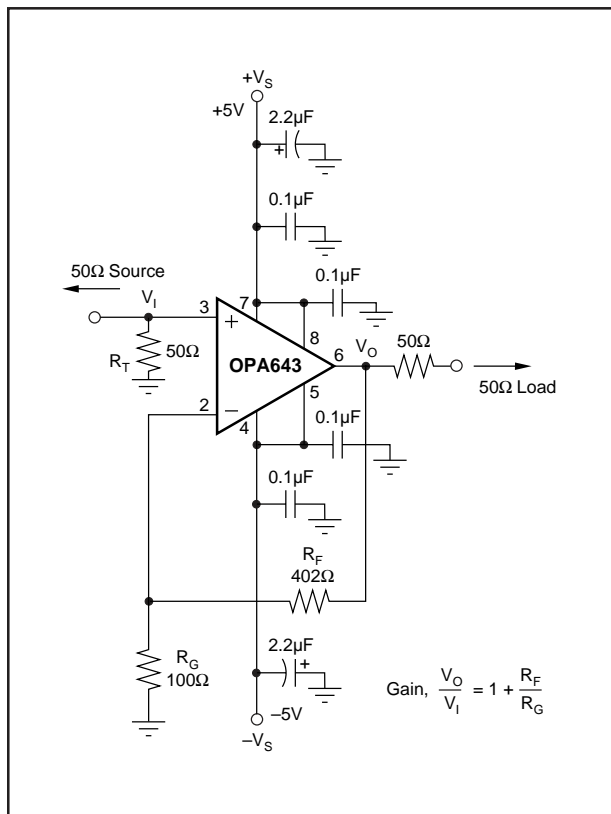

FIGURE 1. Gain of +5, High Frequency Application and Characterization Circuit (P or U Package).
The OPA643's combination of speed and dynamic range is easily achieved in a wide variety of application circuits, providing that simple guidelines common to all high speed amplifiers are observed. For example, good power supply decoupling, as shown in Figure 1, is essential to achieve the lowest possible harmonic distortion and smooth frequency response. Careful PC board layout and component selection will maximize the performance of the OPA643 in all applications, as discussed in the remaining sections of this data sheet.
Figure 1 shows the gain of +5 configuration used as the basis for most of the Typical Performance Curves. Most of the curves were characterized using signal sources with 50Ω driving impedance, and with measurement equipment presenting 50Ω load impedance. In Figure 1, the 50Ω shunt resistor at the  $V_I$  terminal matches the source impedance of the test generator, while the 50Ω series resistor at the  $V_O$  terminal provides a matching resistor for the measurement equipment load. Generally, data sheet specifications refer to the voltage swing at the output pin ( $V_O$  in Figure 1). The total 100Ω load from the series and shunt matching resistors, combined with the 502Ω total feedback network load, presents the OPA643 with an effective output load of approximately 83Ω.
To deliver the lowest possible distortion using the 8-pin SO-8 or DIP package, additional 0.1μF power supply decoupling capacitors on pins 5 and 8 are required. These are shown in Figure 1. Although pins 5 and 8 are internally connected to pins 4 and 7 respectively (the standard supply pins for 8-pin op amps), the additional capacitors help to decouple the package lead inductances and decrease the second-harmonic distortion for a 5MHz fundamental by approximately 4dB. The much shorter bond wires and supply leads of the SOT23-5 package give the best distortion performance while requiring only two power supply connections.
Since the OPA643 is a voltage feedback op amp, a wide range of resistor values may be used for the feedback and gain setting resistors ( $R_F$  and  $R_G$  in Figure 1). The primary limits to these values are set by dynamic range (noise and distortion) and parasitic capacitive considerations. Usually, the feedback resistor value should be between 200Ω and 1kΩ. Below 200Ω, the feedback network will present additional output loading which can degrade the harmonic distortion performance of the OPA643. Above 1kΩ, the typical parasitic capacitance (approximately 0.2pF) across the feedback resistor may cause unintentional band-limiting in the amplifier response.
A good rule of thumb is to target the parallel combination of  $R_F$  and  $R_G$  (Figure 1) to be less than about 200Ω. The combined impedance  $R_F || R_G$  interacts with the inverting input capacitance, placing an additional pole in the feedback network and thus a zero in the forward response. Assuming a 3pF total parasitic on the inverting node, holding  $R_F || R_G < 200\Omega$  will keep this pole above 250MHz. By itself, this constraint implies that the feedback resistor  $R_F$  can increase to several kΩ at high gains. This is acceptable as long as the pole formed by  $R_F$  and any parasitic capacitance appearing in parallel with it is kept out of the frequency range of interest. The exception to this is in wideband transimpedance applications as described earlier. There, a feedback pole is used to compensate for the zero formed by the input capacitance and the feedback resistor.
Generally, until the fundamental signal reaches very high frequencies or powers, the second harmonic will dominate the distortion with negligible third harmonic component. Focusing then on the second harmonic, increasing the load impedance improves distortion directly. Remember that the total load includes the feedback network—in the non-inverting configuration this is sum of  $R_F + R_G$ , while in the inverting configuration it is only  $R_F$  (Figure 1). Larger output voltage swings lead directly to increased harmonic distortion. A 6dB increase in output voltage swing will generally increase the second harmonic by 12dB and the third harmonic by 18dB. Higher signal gain settings will also increase the second harmonic distortion. A 6dB increase in voltage gain will raise the second and third harmonics by
Evaluating these two equations for the OPA643 component values shown in Figure 1 will give a total output spot noise voltage of 13.3nV/√Hz and a total equivalent input spot noise voltage of 2.7nV/√Hz.
Narrowband communications systems are more commonly concerned with the Noise Figure (NF) for the amplifier. The total input referred voltage noise expression (Equation 2 above), may be used to calculate the noise figure. Equation 3 shows the noise figure expression using the  $E_N$  of Equation 2 for the non-inverting configuration where the input termination resistor  $R_T$  has been set to match the 50Ω source impedance (as shown in Figure 1).
Evaluating Equation 3 for the circuit of Figure 1 gives a Noise Figure = 15.9dB. Input transformer coupling can be used to reduce this noise figure. A broadband pulse transformer can provide both a noiseless voltage gain and a more optimum source impedance to minimize the noise figure. Figure 9 shows an example built from the circuit of Figure 1, in which the transformer turns ratio has been set to the closest integer for minimum noise figure. This optimum turns ratio is calculated by:
The OPA643 provides excellent DC signal accuracy due to the combination of high open-loop gain, high common-mode rejection, high power supply rejection, low input offset voltage and low bias current offset errors. The high grade (B) version of any package type provides less than 1.5mV input offset voltage. To take full advantage of this low input offset voltage, careful attention to input bias current cancellation is also required. The high speed input stage for the OPA643 has a relatively high input bias current (19μA typical into each input pin) but with a very close match between the two input currents—typically 100nA input offset current. The total output offset voltage may be considerably reduced by matching the source resistances which appear at the two inputs. For example, one way to include bias current cancellation in the circuit of Figure 1 would be to insert a 55Ω series resistor into the non-inverting input after the 50Ω terminating resistor,  $R_T$ . When the 50Ω source resistor is DC coupled, this will increase the source resistance for the non-inverting input bias current to 80Ω. Since this is now equal to the resistance appearing at inverting input ( $R_F \parallel R_G$ ), the circuit will cancel the gains for the bias currents to the output, leaving only the offset current times the feedback resistor as a residual DC error term at the output. Using a 402Ω feedback resistor, this output error will now be less than  $3\mu A \cdot 402\Omega = 1.2mV$  over the full temperature range.
As a worst case example, compute the maximum  $T_J$  using an OPA643N (SOT23-5 package) in the circuit of Figure 1 operating at the maximum specified ambient temperature of  $+85^\circ\text{C}$ .  $P_D = 10\text{V} \cdot 26\text{mA} + 5^2 / (4 \cdot (100\Omega \parallel 502\Omega)) = 335\text{mW}$ . Maximum  $T_J = +85^\circ\text{C} + (0.335\text{W} \cdot 150^\circ\text{C/W}) = 135^\circ\text{C}$ .